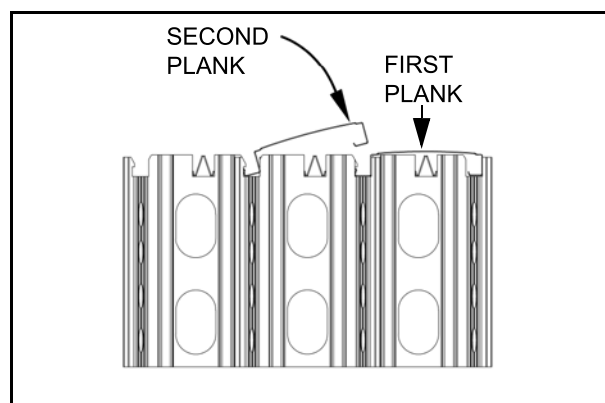

Figure 2.7
5. Add another row of supports by following step 3. Install second plank by placing its open edge channel into the supports and then pushing the straight edge down until it locks into the open edge channel of the first plank (Figure 2.7).